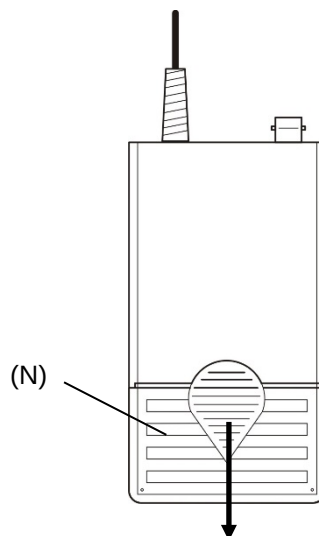

Fig. 4-2
5. Carefully replace the cover, see Section 3, Fig. 4-2.